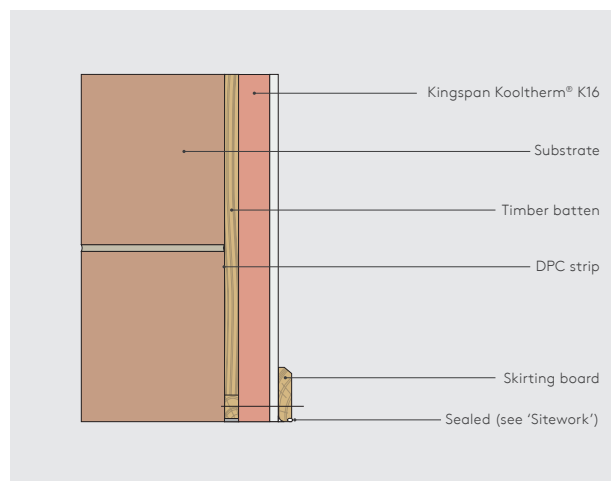

Figure 6 - Packer and Skirting Detail
- The packer should be replaced with a flexible / sealant or equivalent (for 5 mm gaps), or with a combination of flexible polyurethane foam and flexible sealant or equivalent (for 15 mm gaps) (see Figure 6).